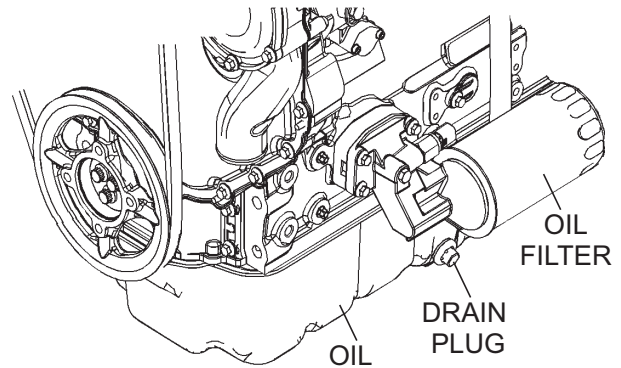

Figure 45. Oil Service Components
3. Remove the drain plug (Figure 45) to drain the oil.